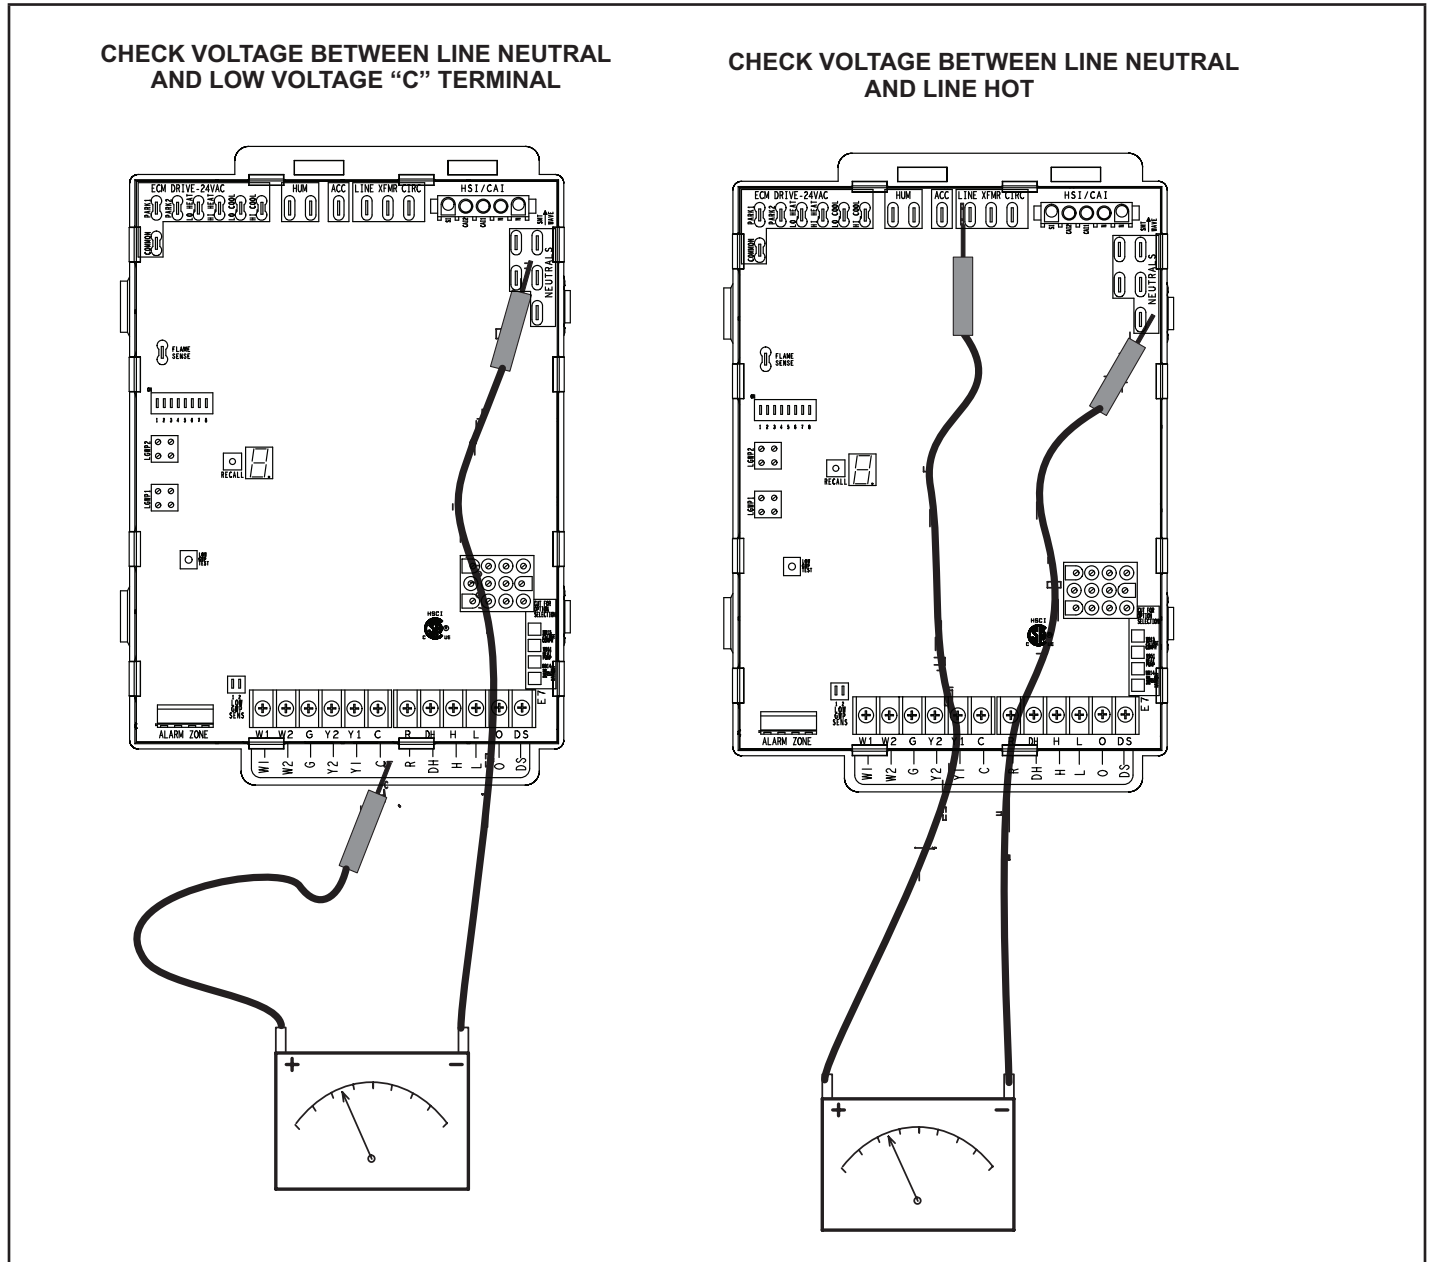

FIGURE 53
- 1 - Measure the AC voltage between Line Neutral (spade terminals) and "C" terminal (low voltage terminal block) on the integrated control. See FIGURE 53. A wide variation in the voltage between Line Neutral and "C" as a function of load indicates a poor or partial ground. Compare the readings to the table below. If the readings exceed the maximum shown in TABLE 27, make repairs before operating the furnace.
- 2 - In addition, measure the AC voltage from Line Hot to Line Neutral (spade terminals) on the integrated control. See FIGURE 53. This voltage should be in the range of 97 to 132 Vac.